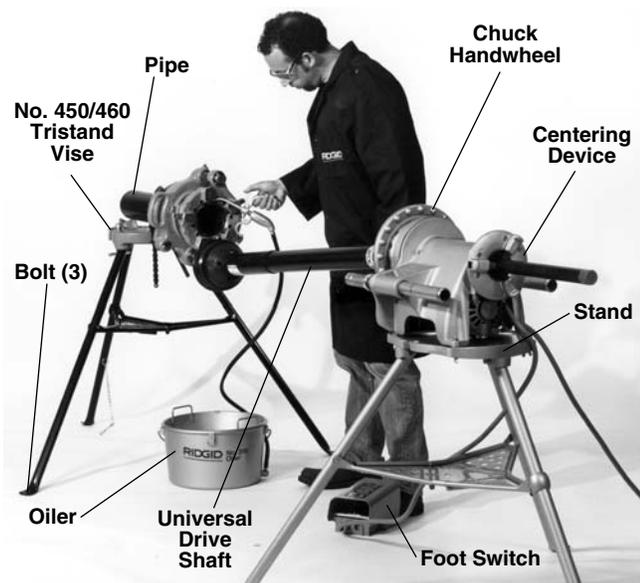

Figure 22 – Threading with Nos. 141 and 161 Geared Threaders using No. 840A Universal Drive Shaft
- Locate chain vise in line, on same level, and approximately the length of universal drive shaft away from Power Drive front chuck (Figure 22).